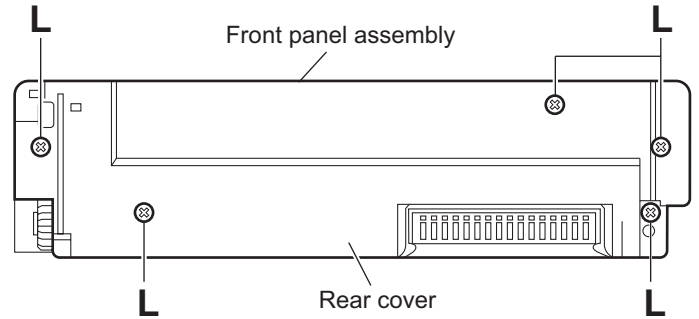

Fig.10
2.1.9 Removing the front board (See Figs.10 to 12)
- (1) Remove the five screws **L** attaching the rear cover on the back side of the front panel assembly. (See Fig.10.)
2.2.5 Removing the clamper assembly (See Figs.10 and 11)